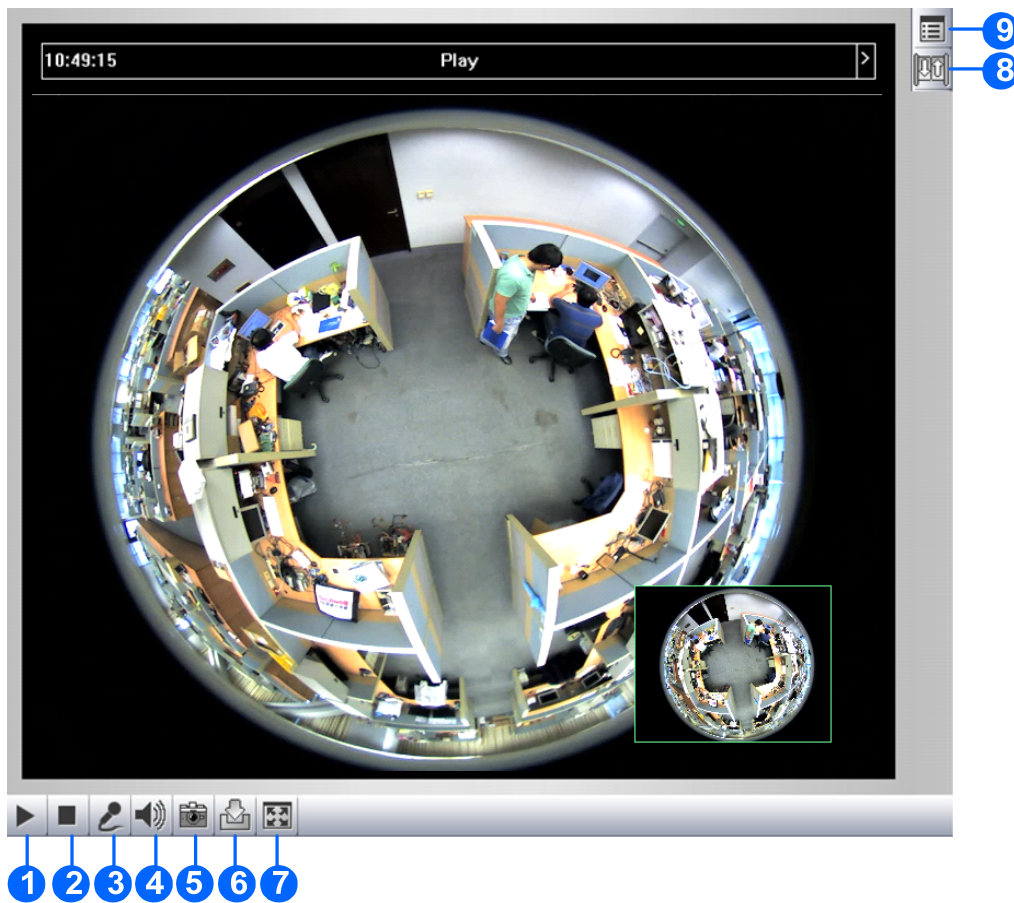

Figure 3-3
1. Click the **Snapshot** button (No. 5, Figure 3-3). The Save As dialog box appears.
1. Click the **File Save** button (No. 6, Figure 3-3). The Save As dialog box appears.
4. To stop recording, click the **Stop** button (No. 2, Figure 3-3).